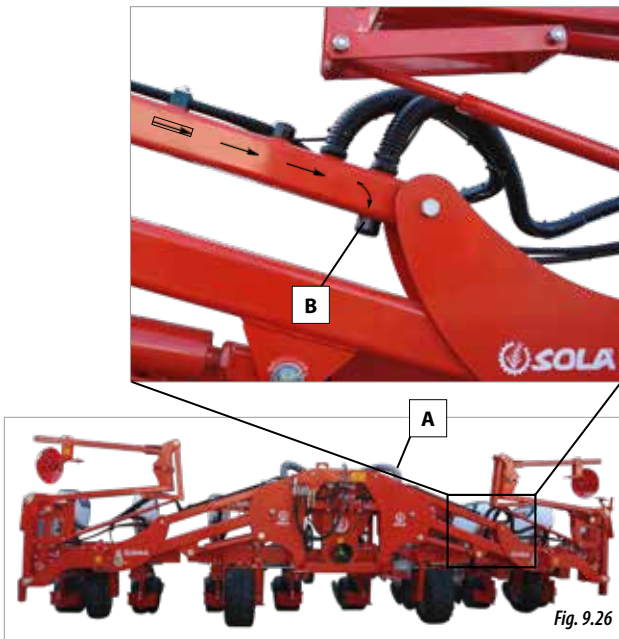

Fig. 9.26
- 2- Remove the lower cap of the folding parts' air reservoir (B, Fig. 9.26).
- 3- Use compressed air to blow air into the folding parts' air reservoir in the direction indicated by the arrows in Fig. 9.26.
- 4- Place the lower cap back (B, Fig. 9.26) and connect the suction duct (A, Fig. 9.26).